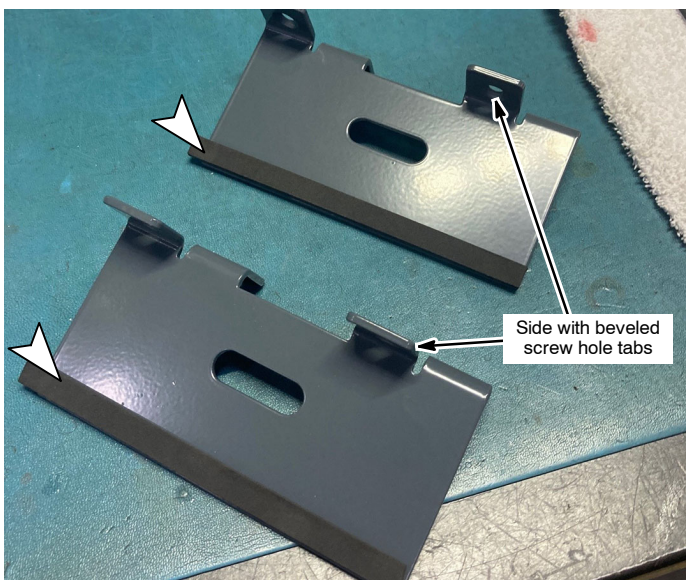

Fig. 2
4. Adhere the rubber seal strips to the two charger brackets as shown (Figure 2).